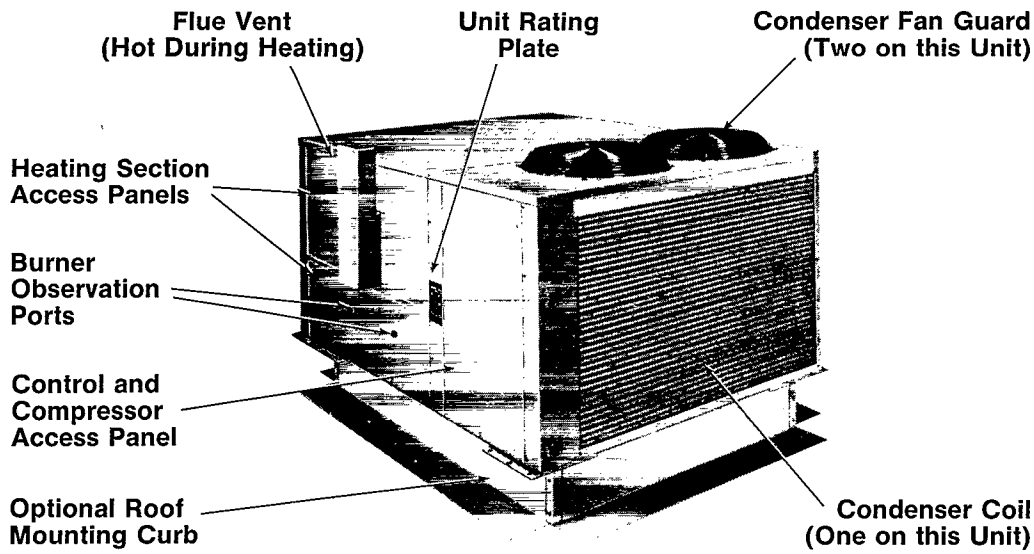

Figure 1 — Model 579C
2. Follow the instructions on the unit rating plate when starting the heating section. See Figure 1.
- Step 2— Remove lower heating section access panel to your unit. See Figure 1.
- Step 2— Remove lower heating section access panel. See Figure 1.
Refer to Figures 1 and 3. Using a flashlight, proceed as follows to inspect the combustion area and vent system of your unit.
6. Observe unit heating operation, and watch the burner flames through the observation ports (see Figure 1) to see if they are bright blue. If you observe a suspected malfunction, or that the burner flames are not bright blue, call your dealer.